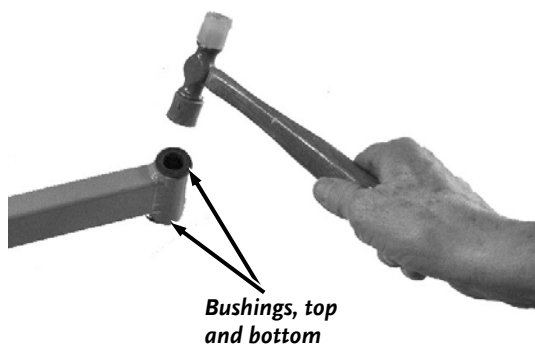

Figure 3
1. Insert two black Castor Wheel Spindle Bushings (one on top and one on the bottom) into a Front Arm of the Lawn Deck Frame. You may need to tap the Bushings in with a Hammer (Figure 3).